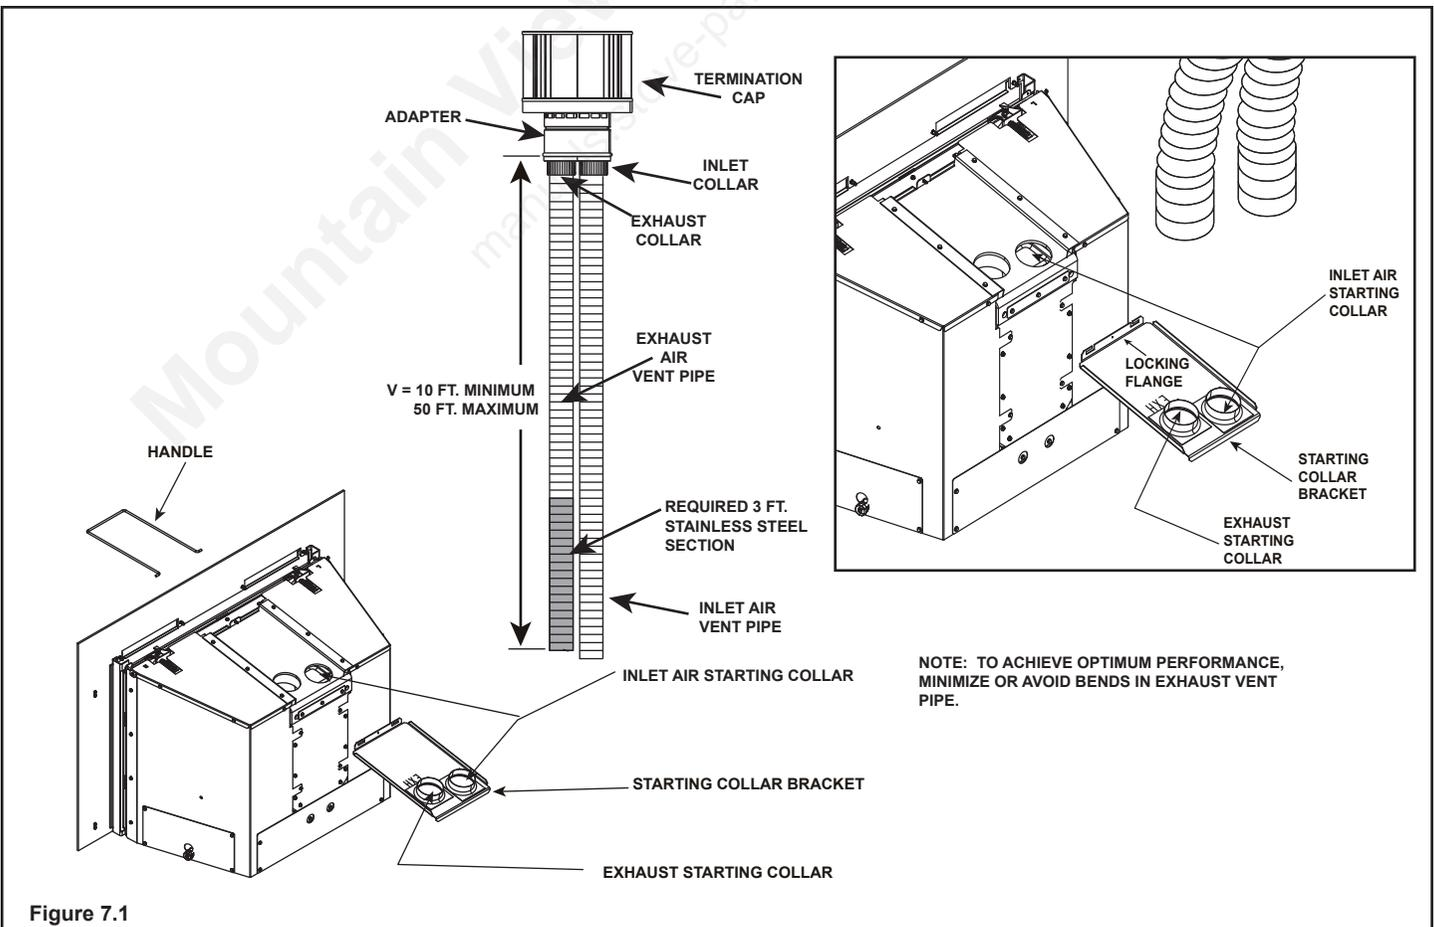

Figure 7.1
- Secure the exhaust flexible vent pipe to the 3 foot section stainless steel flexible vent pipe using the factory-installed 3-inch collar in the stainless steel section of pipe (see Figure 7.1).
- Use 3 screws to attach the section of inlet air vent to the inlet collar on the collar slide plate. See Figure 7.1. NOTE: The collar slide plate may be removed from appliance to aid installation.
- Secure collar slide plate to appliance by placing locking handle into position with locking tabs (see Figure 7.1) and secure with #8 screw.